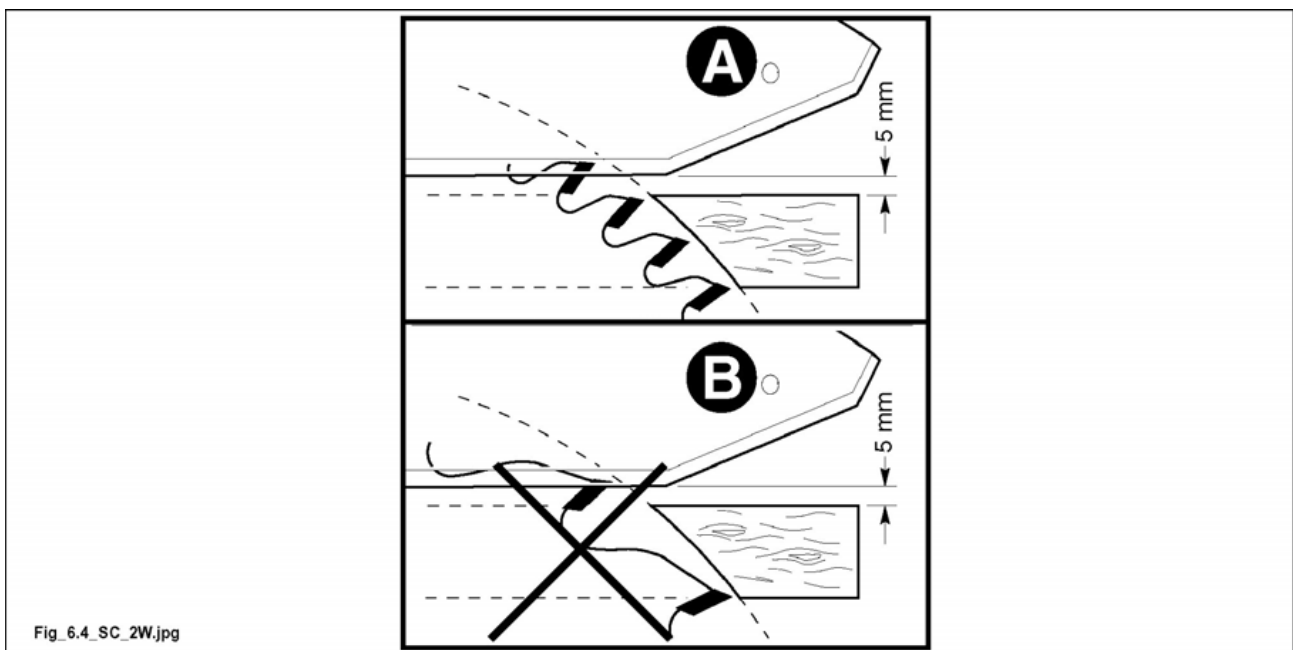

Fig. 6.4
- As regards the toothing at least 2-3 teeth shall cut at the same time (A fig. 6.4). If only one tooth cuts (B fig. 6.4) you don't get a good cutting.